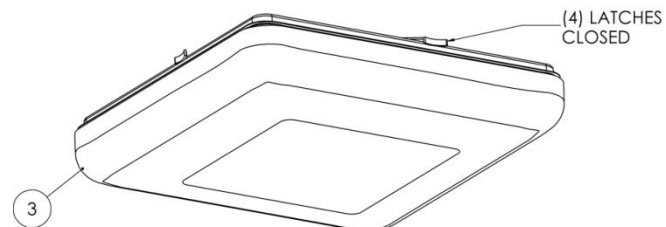

Figure 2
- Close the 4 latches to secure the diffuser (3), (Figure 2).